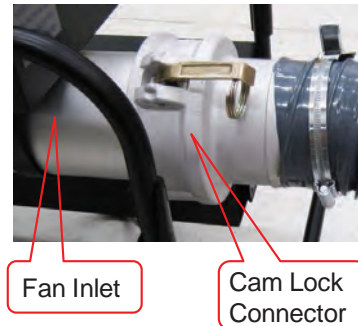

Figure 8. Negative Pressure, High-Flow Setup
- c. For negative pressure, high-flow testing, remove the low flow nozzle if it is installed. Then, connect the gray cast aluminum cam lock connector to the inlet side of the blower per Figure 8. Close both cam lock arms at the same time to ensure proper fit.